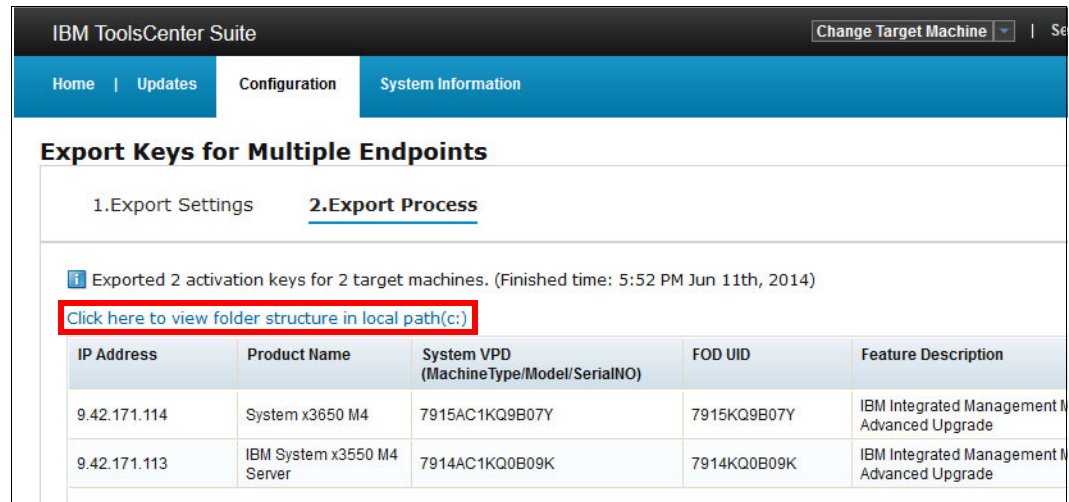

Figure 3-67 View FoD keys
- When the export is complete, you can view the exported keys by clicking **Click here to view the folder structure in the local path** (as shown in Figure 3-67) or click **Finish** to exit the export process and return to Features on Demand Mass Activation primary page.